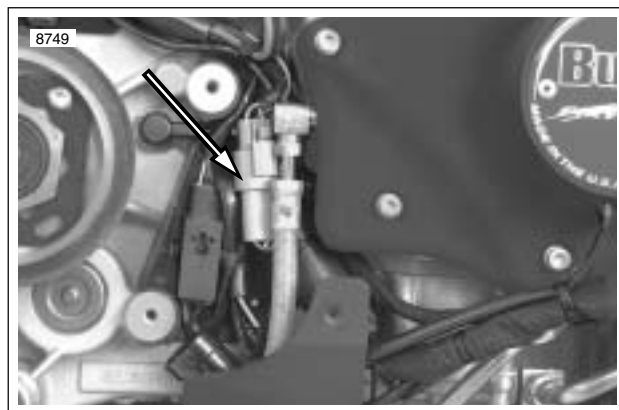

Figure 7-66. Vehicle Speed Sensor Connector [65]
1. See Figure 7-66. Locate the 3-place vehicle speed sensor connector [65] under the sprocket cover. See 2.31 SPROCKET COVER.
1. See Figure 7-66. Disconnect vehicle speed sensor connector [65]. Attach speedometer tester connector to vehicle speed sensor connector.